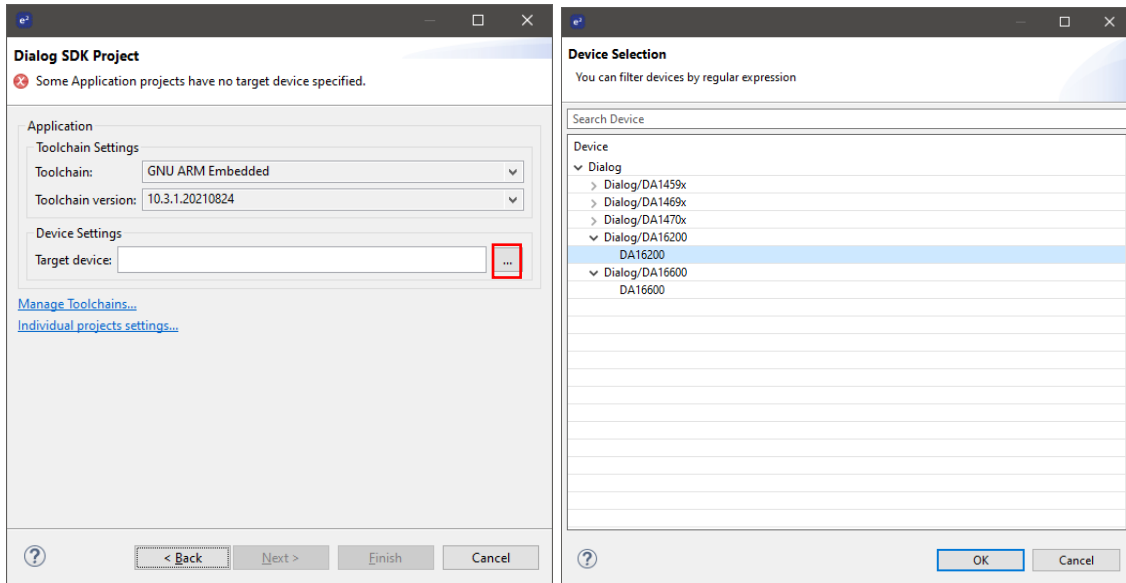

Figure 21. Dialog SDK project
4. The Dialog SDK Project window appears as shown in Figure 21. Select Target device da16200 or da16600 by choosing the  button and then click **Finish**.